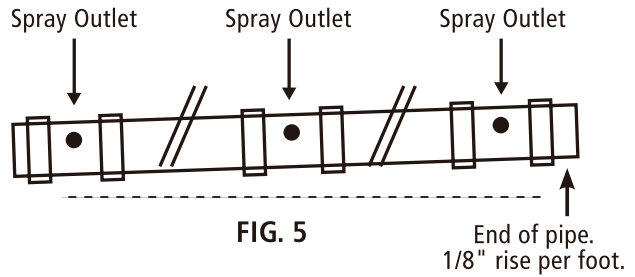

FIG. 5
- The height at the end on the pipe needs to be higher than the humidifying section, 1/8" rise per foot (see FIG. 5).